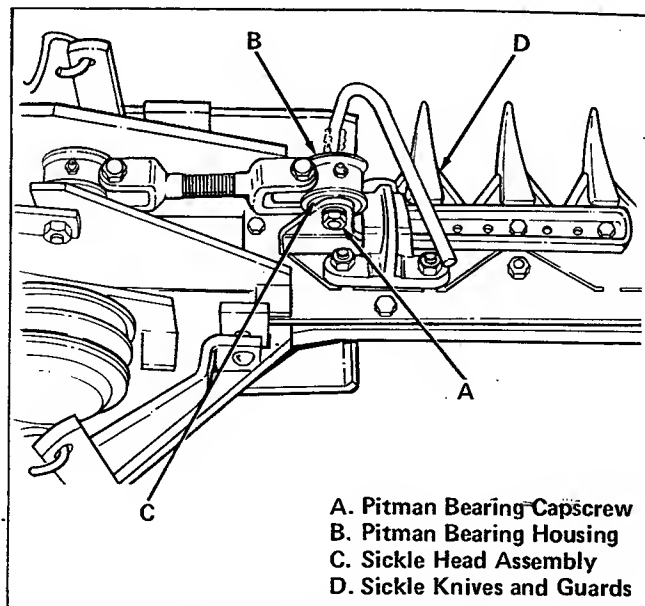

Figure 33. Register Adjustment
1. Remove pitman bearing capscrew (item A, figure 33) and lift pitman bearing housing (item B) up and out of sickle head assembly (item C).